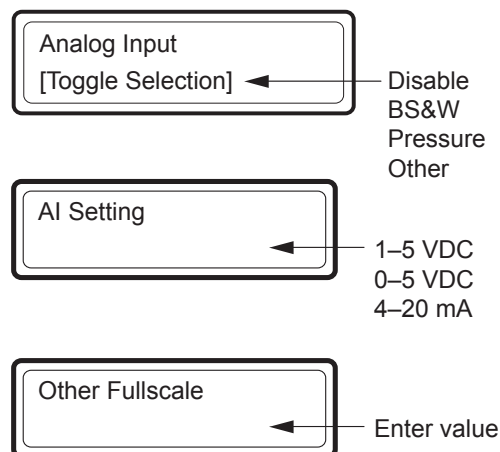

Figure 4.7—Configuration menu for unspecified “Other” analog input
2. Press INCREMENT and ENTER buttons to enter the configuration menu (Figure 4.7, Page 36).